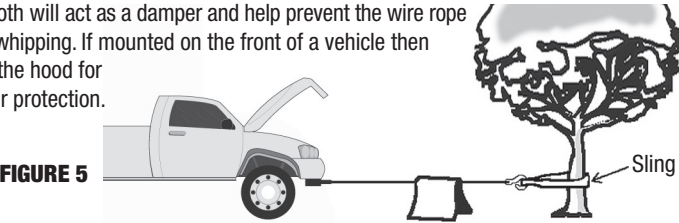

FIGURE 5
- 11. It is highly recommended to lay a heavy cloth (such as a blanket or tarp) over the wire rope when pulling heavy loads (FIGURE 5).** If a wire rope failure should occur, the cloth will act as a damper and help prevent the wire rope from whipping. If mounted on the front of a vehicle then raise the hood for further protection.